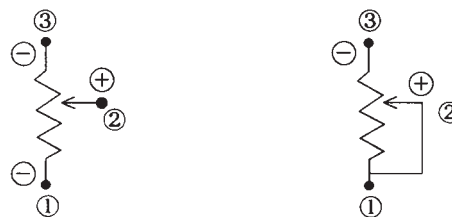

Figure 4
5. Applied Voltage. When DC voltage is applied, local resistance may be abnormally high depending on how the trimmer potentiometer is connected. Always connect the positive (+) current to the wiper terminal as illustrated in *Figure 4*.